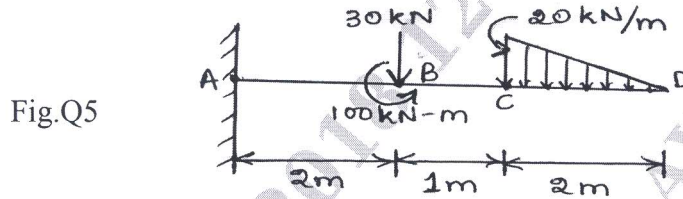

Fig.Q5
- 5 Draw the shear force and bending moment diagram for a cantilever subjected to forces as shown in the fig. Q5. Locate the point of contraflexure. (20 Marks)